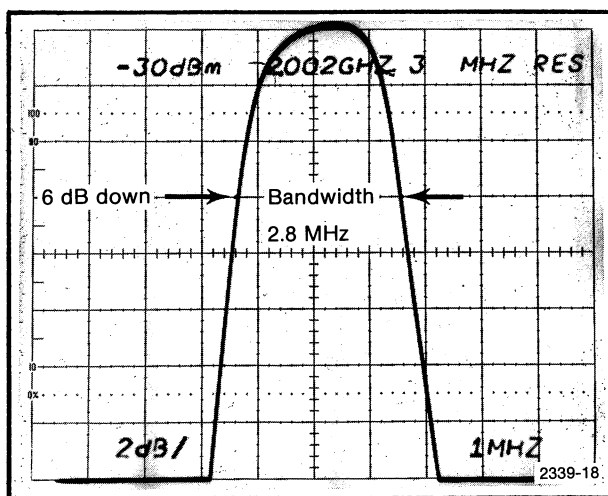

Fig. 3-3. Display mode Log. Bandwidth measured 6 dB down.
c. Measure the 6 dB bandwidth (see Fig. 3-3). Bandwidth must equal 3 MHz ± 600 kHz.